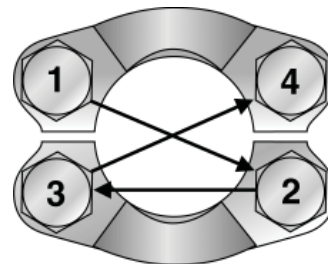

Fig. T9 – Flange Bolt Tightening Sequence
6. Torque bolts in diagonal sequence (see Fig. T9) in small increments to the appropriate torque level listed in Table T6 or Table T7 on this page.